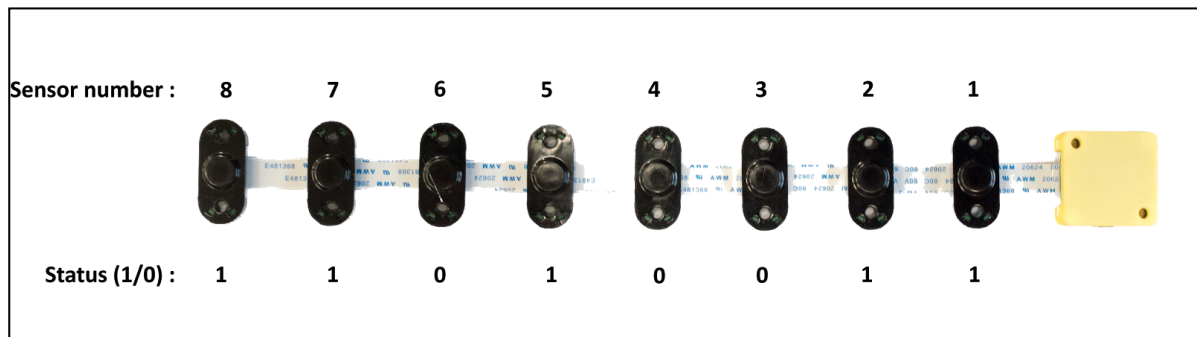

Figure 22. Calculating the Binary Byte value
The TeraRanger Multiflex can be used with less than 8 sensors. This allows the sensors to work at higher update frequencies. To enable this, the user needs to inform the terminal emulation software about the sensor units to be used by inputting the correct command line. This section shows an example of how to configure 5 sensors (Figure 22).
The binary byte consists of 8 values, that represent operating (1) and non-operating (0) sensors. In Figure 22, sensors 8, 7, 5, 2, 1 are operating and 6, 4, 3 are non-operating, which means that the binary byte value (Status) is **11010011**.